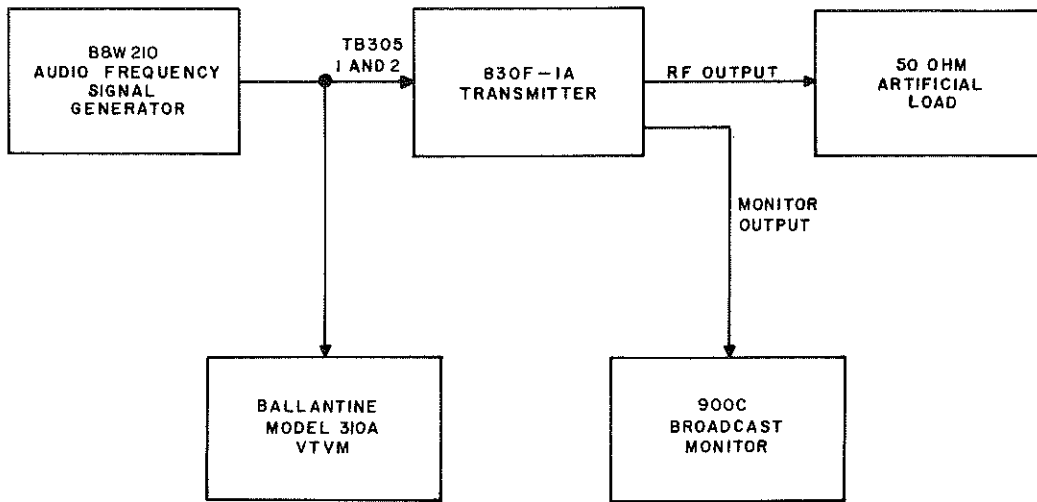

Figure 5-3. Audio Frequency Response, Test Setup
a. Refer to figure 5-3. Connect an audio frequency signal generator, such as a Barker & Williamson Model 210, to terminals 1 and 2 of terminal
b. Check the audio frequency response of the transmitter by modulating the transmitter at 50, 100, 400, 1000, 5000, 7500, 10,000, and 15,000 Hz for 25 percent, 50 percent, and 100 percent modulation. Audio frequency response is measured by keeping the percentage of modulation constant and measuring the magnitude of audio, at each frequency given, to give the desired percentage of modulation. The audio frequency response must fall within the limits given in figure 5-3.